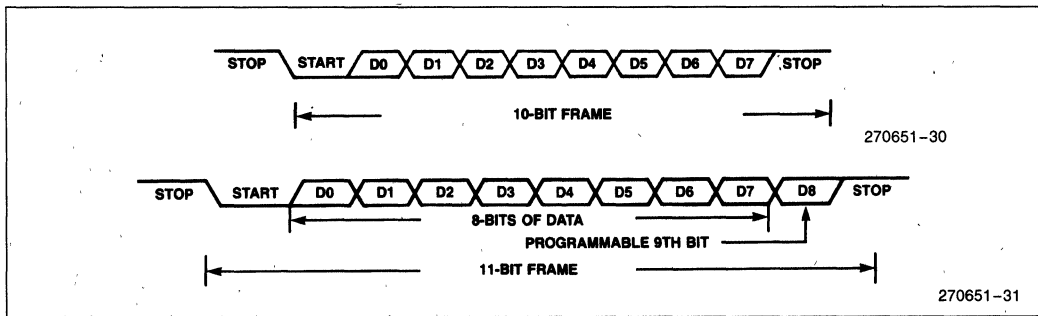

Figure 10-4. Serial Port Frames, Mode 1, 2, and 3
Mode 1 is the standard asynchronous communications mode. The data frame used in this mode is shown in Figure 10-4. It consists of 10 bits; a start bit (0), 8 data bits (LSB first), and a stop bit (1). If parity is enabled by setting SPCON.2, an even parity bit is sent instead of the 8th data bit and parity is checked on reception.
Mode 2 is the asynchronous 9th bit recognition mode. This mode is commonly used with Mode 3 for multiprocessor communications. Figure 10-4 shows the data frame used in this mode. It consists of a start bit (0), 9 data bits (LSB first), and a stop bit (1). When transmitting, the 9th bit can be set to a one by setting the TB8 bit in the control register before writing to SBUF (TX). The TB8 bit is cleared on every transmission, so it must be set prior to writing to SBUF (TX). During reception, the serial port interrupt and the Receive Interrupt will not occur unless the 9th bit being received is set. This provides an easy way to have selective reception on a data link. Parity cannot be enabled in this mode.